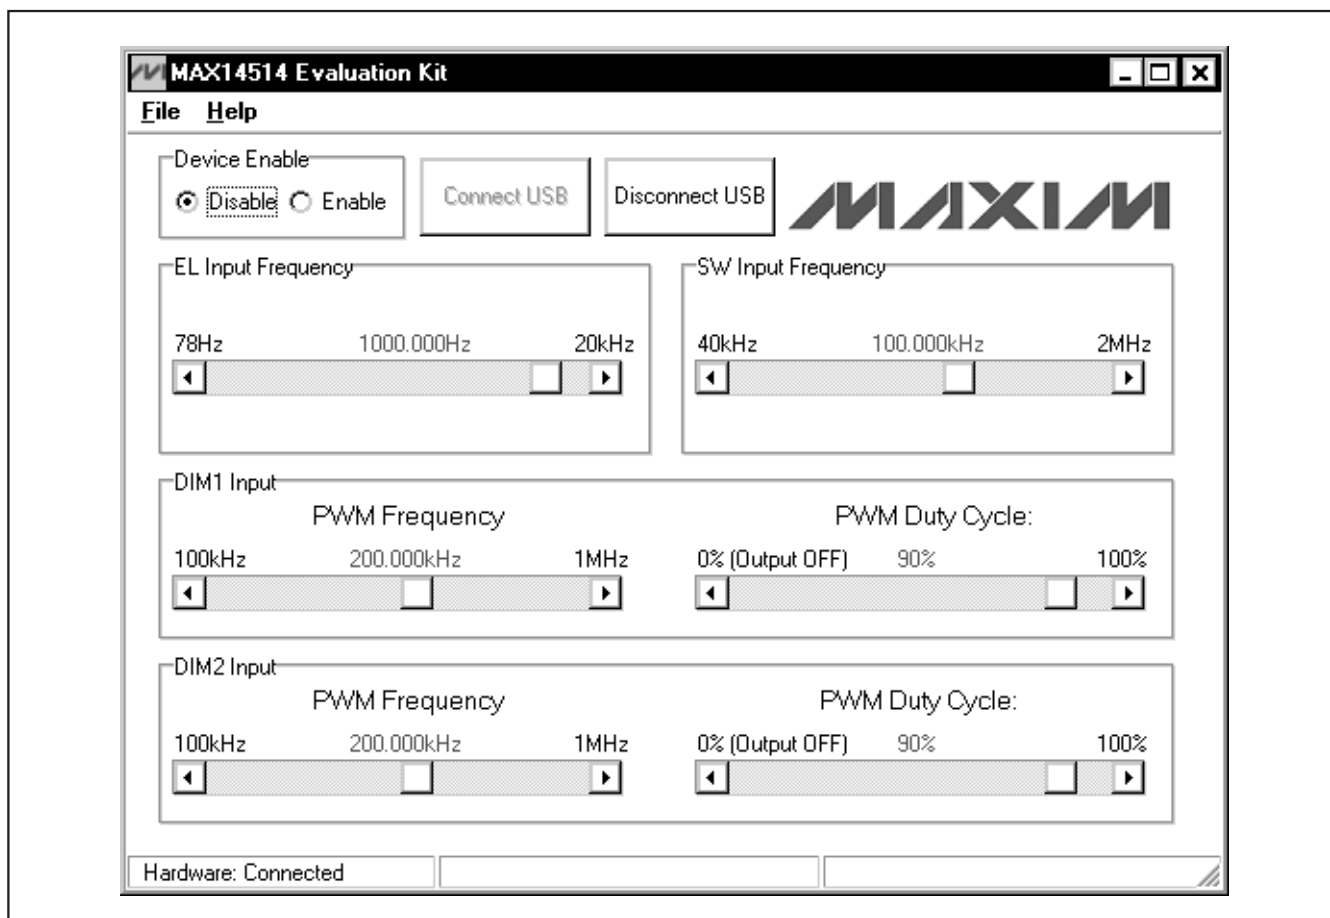

Figure 1. MAX14514 EV Kit Software Main Window
- Connect an electroluminescent (EL) lamp between alligator clips V1 and COM.
- Start the MAX14514 EV kit software by opening its icon in the **Start | Programs** menu. The EV kit software main window appears, as shown in Figure 1.
The main window of the evaluation software (Figure 1) lets a user set the EL voltage switching frequency, boost-converter switching frequency, and PWM signals